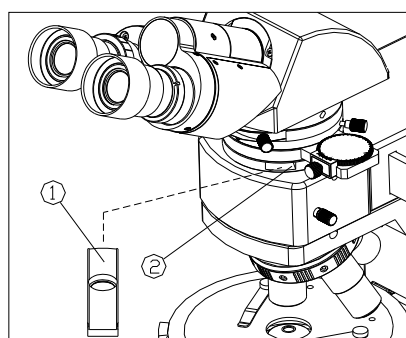

Fig.31
The compensator① is inserted into the slot② of the middle head in 45° declined. The surface with alphabetic character is upwards, the λ , $\lambda/4$ and dustproof board should be inserted thoroughly, and the quartz chock can be inserted if necessary. (See Fig. 31)